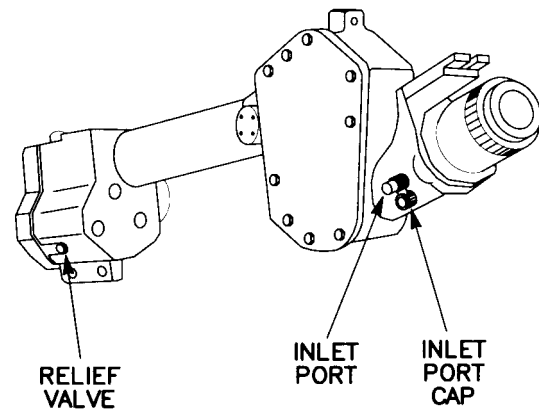

Figure 3-55 Commander's Extension PN 12285300
(1) Perform purging procedure para 2.5.b
(2) Purge instrument at 5 psig for 5 minutes.
(3) Charge instrument at 5 psig for 5 minutes.
(4) Leak test for a minimum of 10 minutes.
e. Commander's Extension, PN 12285300 (fig. 3-55).